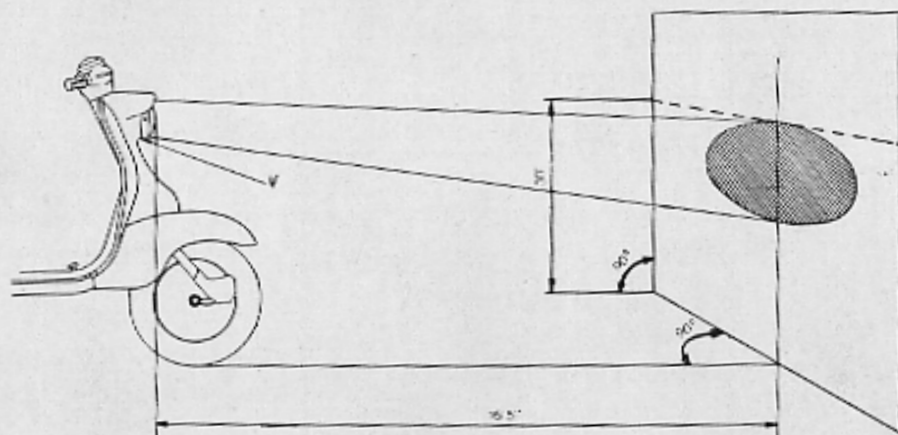

Fig. 44
- Place a vertical screen in front of scooter as shewn in Fig. 44.